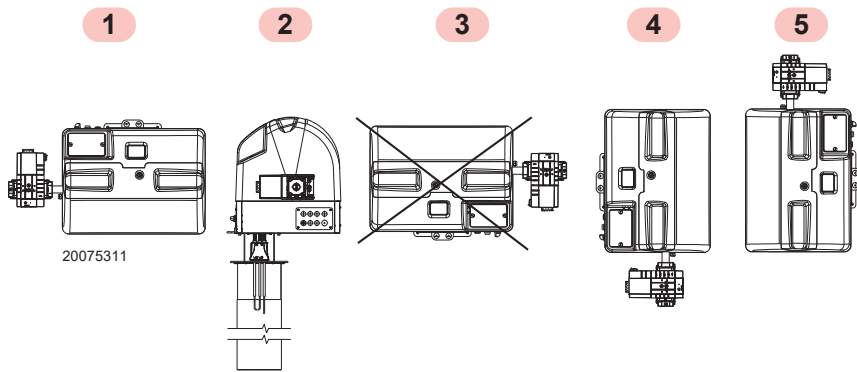

Fig. 14
- The burner is designed to operate only in positions **1**, **2**, **4** and **5** (Fig. 14).
- All the positions require the installation of the gas valve with coils facing upwards or horizontally (Fig. 14).